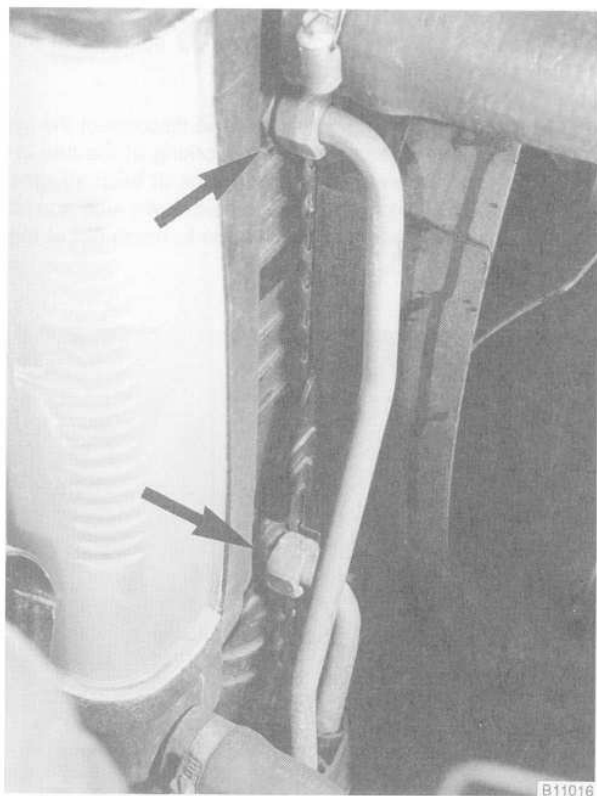

Fig. 10. ATF cooler lines at left side of radiator (arrows).
6. On cars with automatic transmission, disconnect the ATF cooler lines from the radiator. See Fig. 10. Cap off the open lines. Remove the front and rear brackets holding the cooler lines to the engine block.